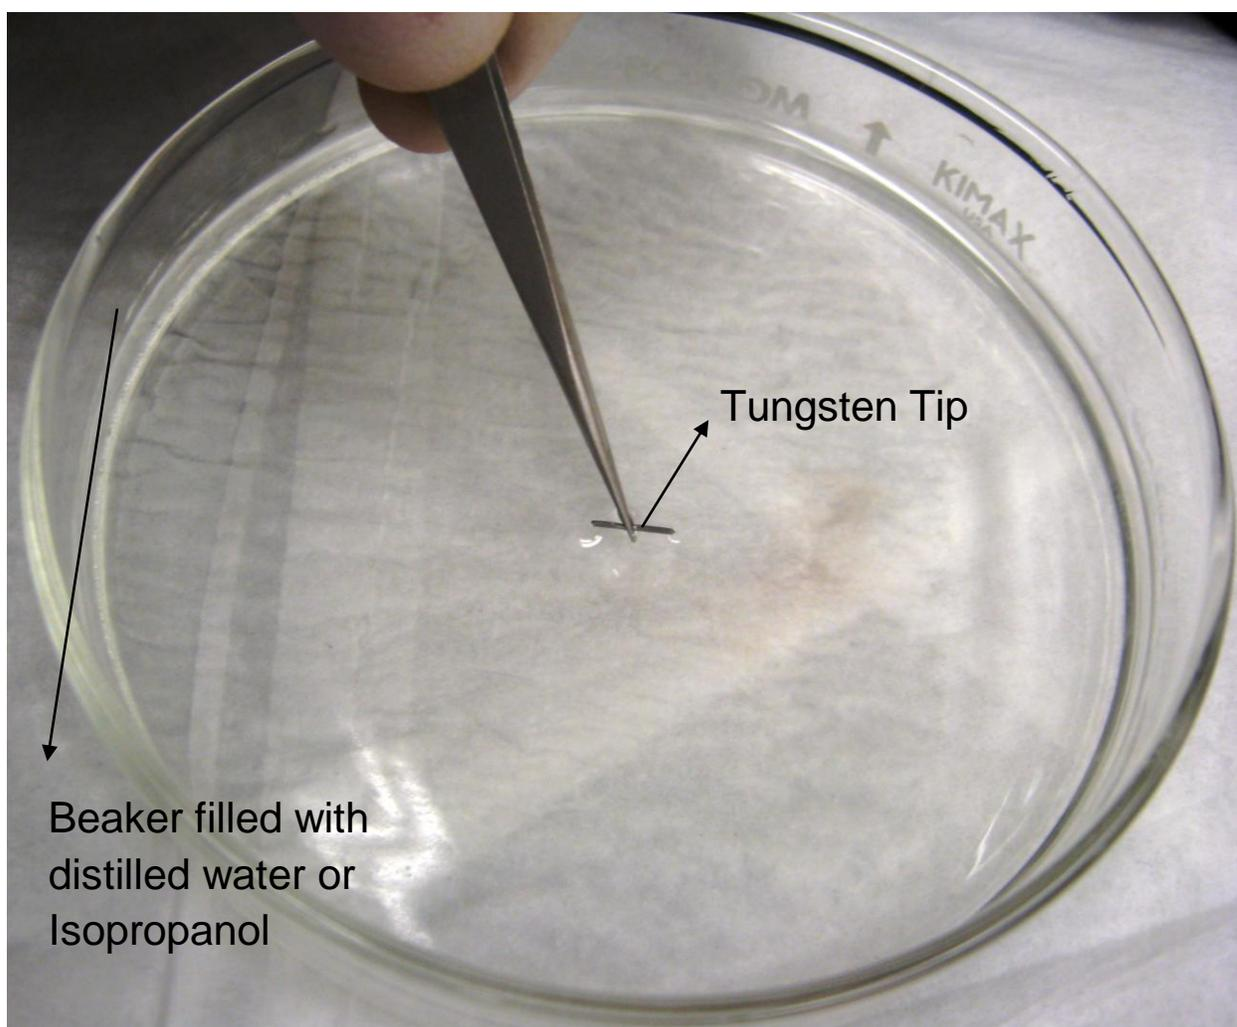
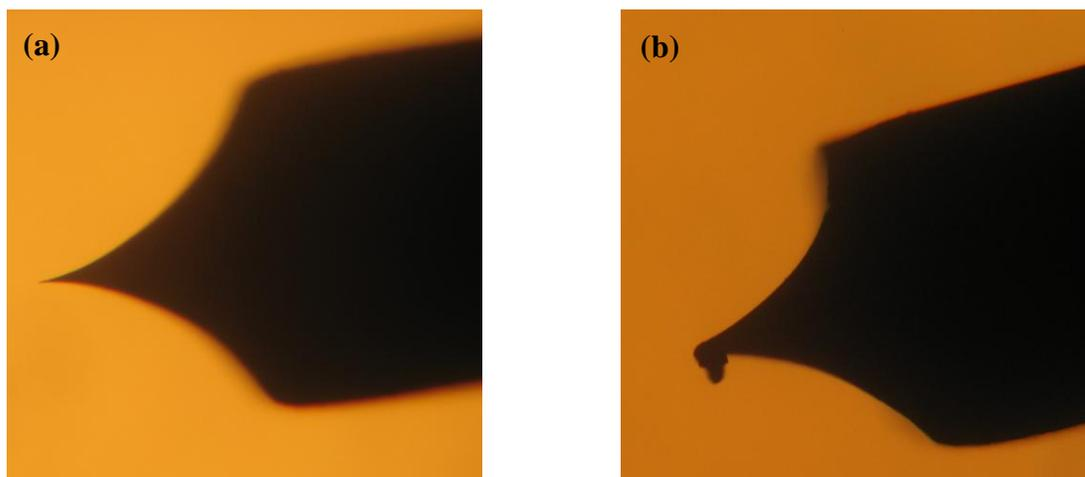

Fig. 6: Cleaning of the tip in distilled water and in Isopropanol; the beaker should be used inside the ultrasonicator
Fig. 7: Picture of the optical microscope image showing (a) a tip which did not come in contact with any surface and (b) one that did
13. ***While holding the freshly prepared tip with tweezers, clean it in distilled water and then in Isopropanol*** (using the ultrasonicator, for about 1 minute) as shown in Fig. 6; ***make sure to prevent the 'tip of the tip' from touching any surface*** (this can be checked by using the optical microscope - see Fig. 7 for a comparison between a tip that did not touch any surface and one that did);